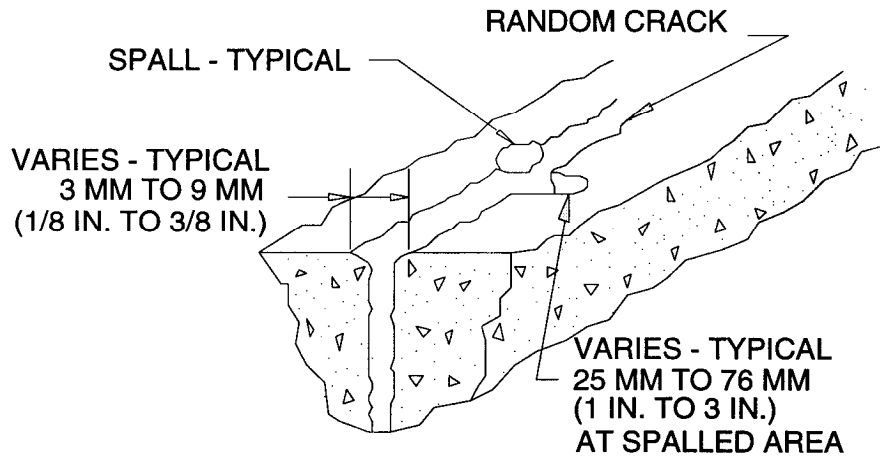

Figure 4a. Existing Random Crack
**3.2. Random Cracks (Figure 4a and 4b).**